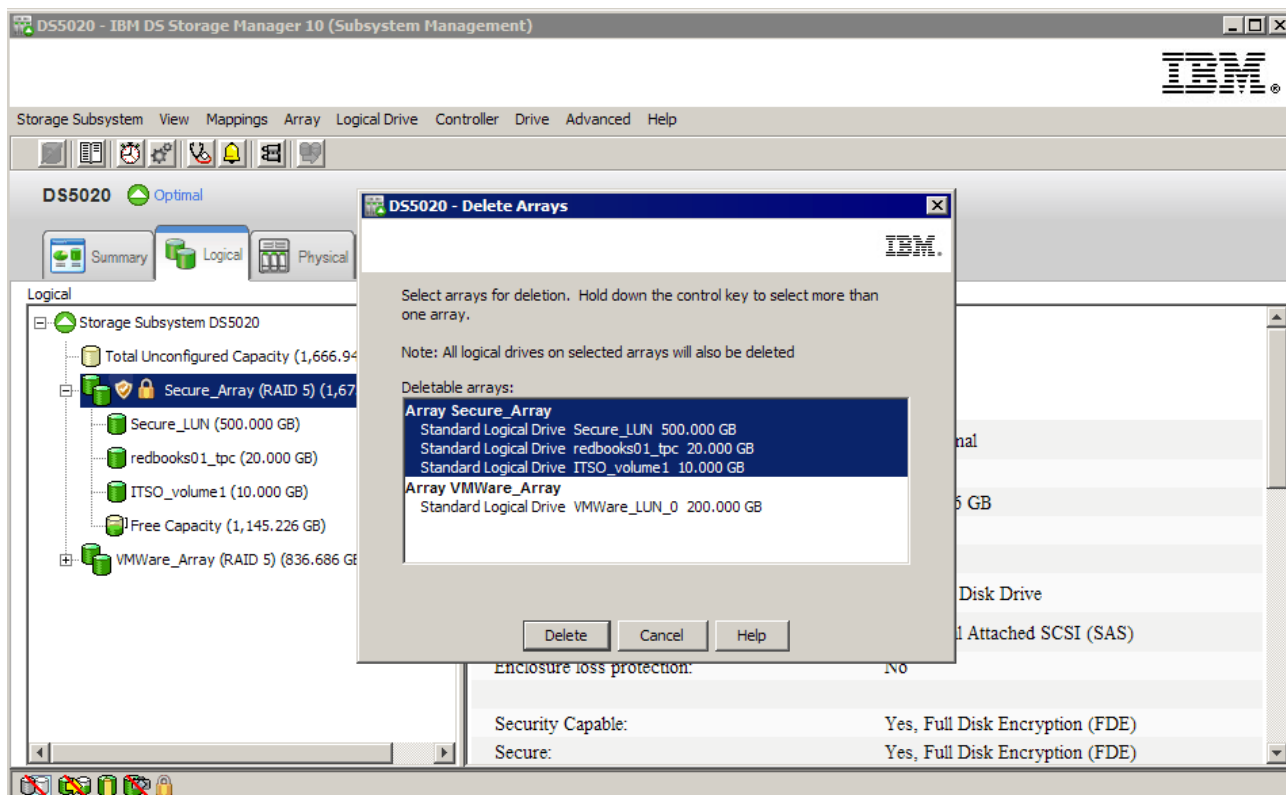

Figure 3-123 Delete Arrays Window to select arrays to be deleted
2. This will bring up the *Delete Array* window shown in Figure 3-123. Confirm that the array (and logical drives) you wish to remove is selected and click *Delete*.